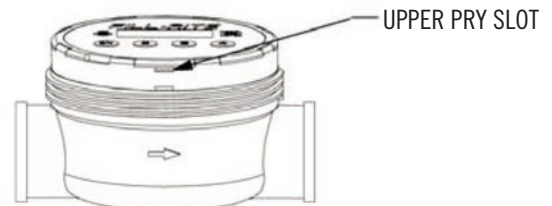

FIGURE 1
1. Unscrew meter cap (item 1). Use a strap type oil filter wrench if too tight to unscrew by hand.
2. Insert a wide, flat-head screwdriver into the upper slot and gently pry up electronics module (see Figure 1).